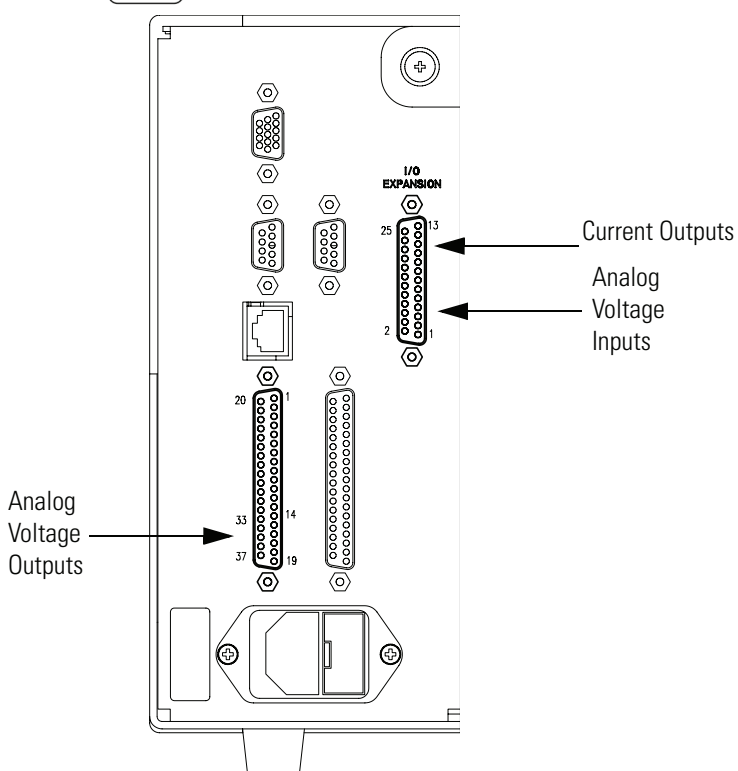

Figure 7-6. Rear Panel Analog Input and Output Pins
1. Connect a meter to the channel to be tested. Figure 7-6 shows the analog output pins and Table 7-4 identifies the associated channels.
1. Connect a meter to the channel to be adjusted and set to voltage or current as appropriate. Figure 7-6 shows the analog output pins and Table 7-4 identifies the associated channels.
1. Connect the known DC voltage source to the input channel (1-8) to be calibrated. Figure 7-6 shows the analog input pins and Table 7-5 identifies the associated channels.